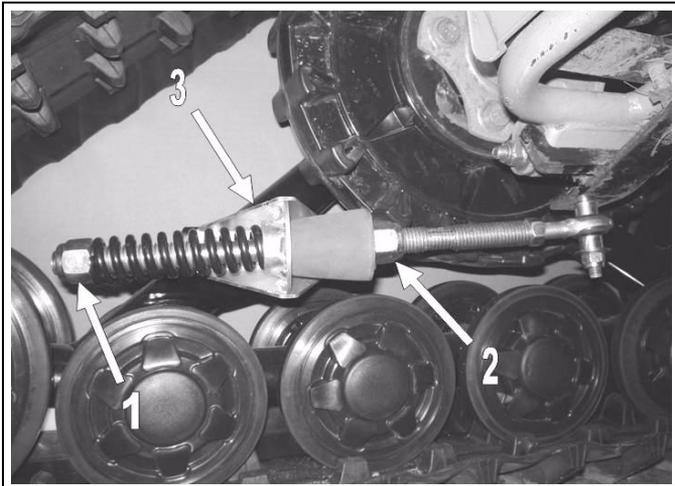

Figure 8
- Loosen the nut (1) compressing the spring of the stabilizing rod (refer to Figure 8).
- Turn the nut (2) until it comes in contact with both rubber damper and bracket (3). Then, compress the rubber damper by turning the nut (2) one turn.
- Turn the nut (1) until it comes in contact with the spring. Then compress the spring by turning this nut 1.5 turns.